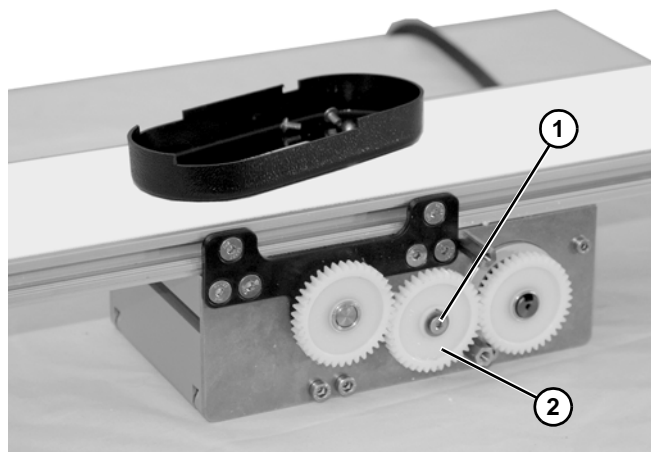

Figure 34
14. Install center gear (Figure 34, item 2) with washer and screw (Figure 34, item 1).